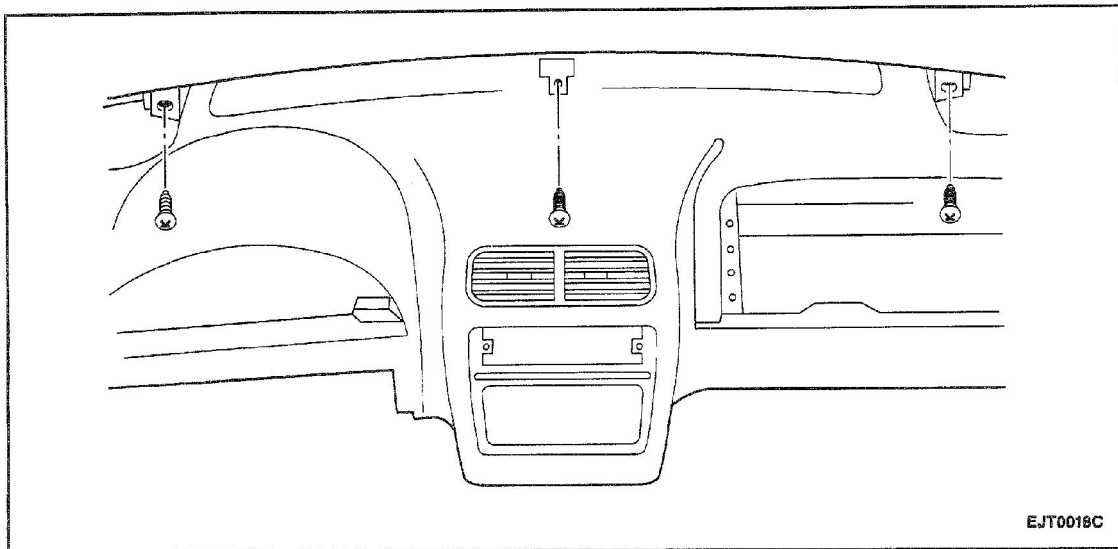

Figure 20—Instrument Panel Assembly Upper Bolts
34. Three screws along top of instrument panel (Figure 20).